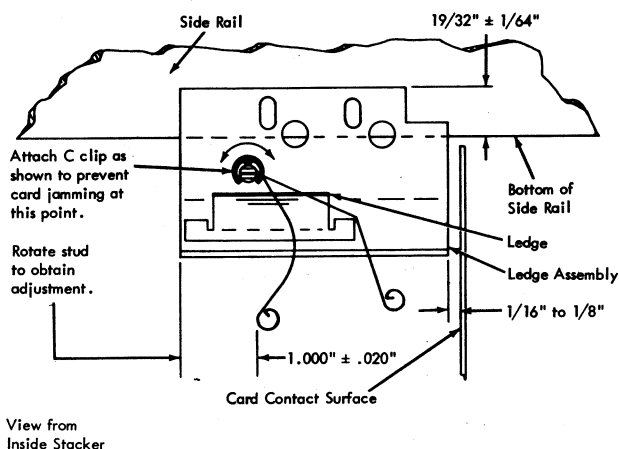
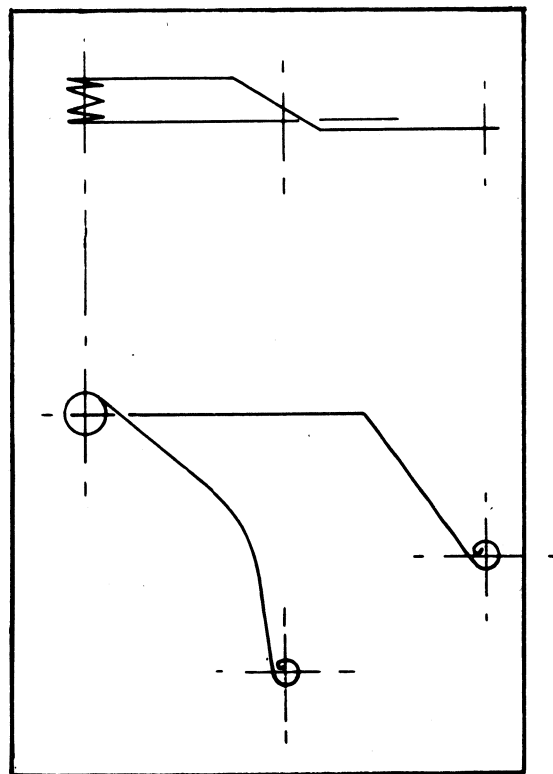

Figure 4-26. Restrainer Spring Adjustment
Figure 4-27. Spring Configuration (Actual Size)
1. Position ledge assembly vertically so top of ledge assembly to bottom of side rail is  $19/32'' \pm 1/64''$ . Ledge must be parallel to stacker side rail within .010" (Figure 4-26).
Rotate restraining spring mounting stud to obtain dimension shown in Figure 4-26. For optimum stacker performance, the restraining spring should conform to configuration shown (Figure 4-27).